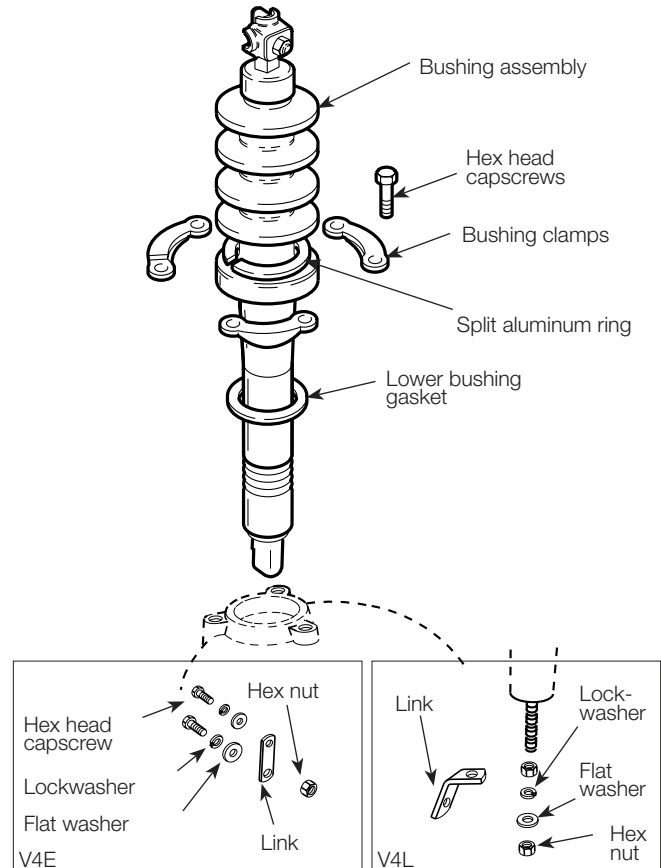

Figure 2. Bushing replacement
1. Untank recloser and disconnect appropriate bushing lead, see Figure 2.